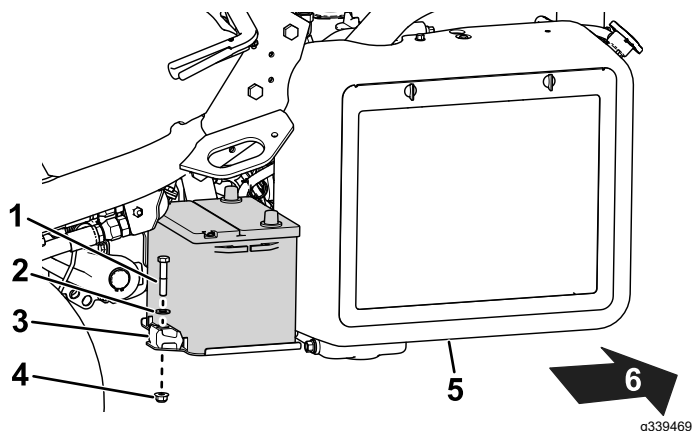

Figure 42
2. Remove the fasteners that secure the battery to the tray (Figure 42) and lift out the battery.
5. Place the battery on the battery tray and secure it with the previously removed rods and fasteners (Figure 42).